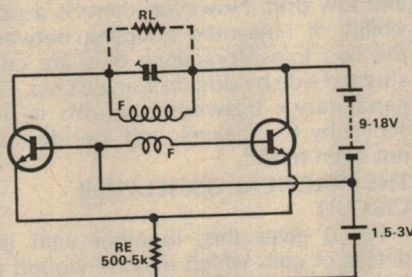

FIG. 4
This is a rather unusual but very useful push-pull long-tail arrangement using small-signal high gain transistors of the cheapest kind. Fig. 4 shows its essentials. The circuit first came to my notice in an interesting and valuable paper on transistor oscillators by P.J. Baxandall (1) published in 1960. A vigorous oscillator of good stability and fairly high efficiency, it can give a pure RF waveform with distortion as low as 0.1%. As can be seen, the number of parts required is minimal.